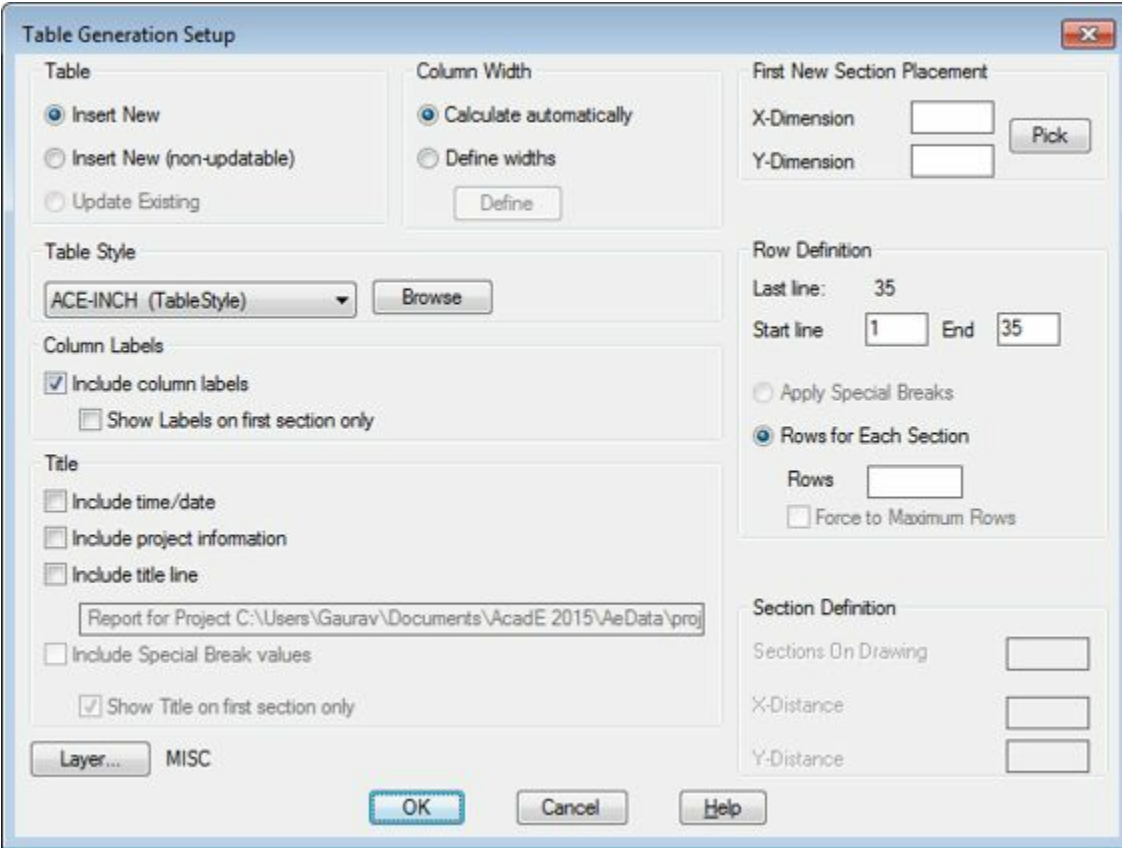

Figure-36. Table Generation Setup dialog box
- Click on the **Put on Drawing** button. The **Table Generation Setup** dialog box will be displayed; refer to Figure-36.